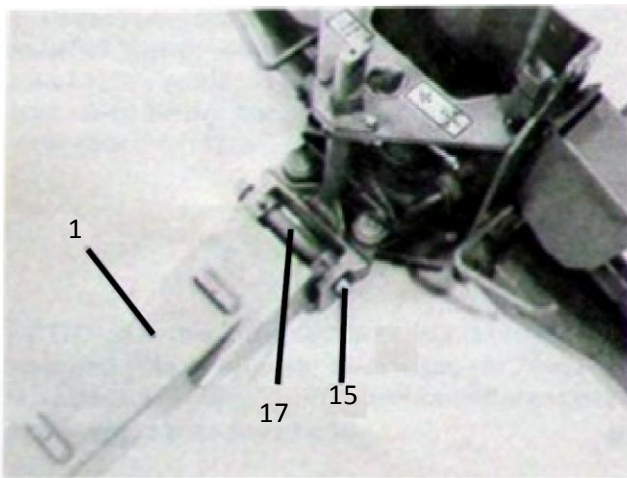

Fig. 2
(1) Remove the 1" x 10 1/2" plated bolt (Item 15 in the main frame assembly) and the 1" I.D. x 1 5/16" O.D. x 5" spacer (Item 17 in the main frame assembly) from the yoke of the swing shaft. Position the base end of the main boom (Item 1) between the mounting ears (use two men or overhead hoist) and insert the spacer between the boom swivel lugs. Re-insert the 1" x 10 1/2" plated bolt through the yoke ears, spacer and the boom swivel lugs as shown in Fig. 2. The head of the bolt should be seated (or locked) against the shoulder on the outside surface of the mounting ears to prevent the bolt from turning during operation. Fasten the bolt in place with the 1" self-locking hex nut and tighten for tight fit but not sufficiently to warp the yoke mounting ears.